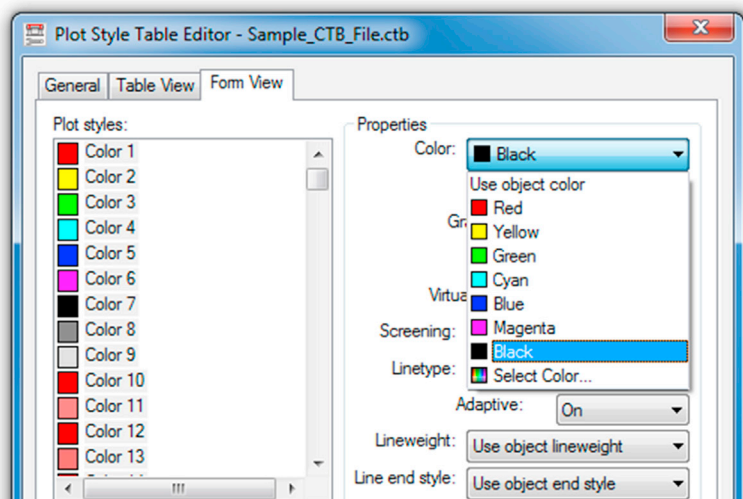

FIGURE 19.7 Selecting black for all colors.
- Then, as all the colors are highlighted blue, select the very first drop-down choice in Properties, called *Color:*, and select Black (Fig. 19.7). All colors are assigned black ink.